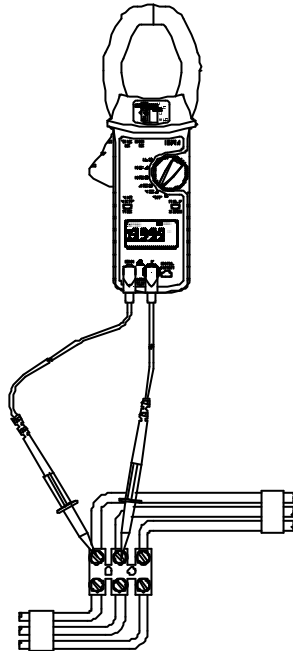

Fig. 3
- Insert the test leads into the sockets on the front of the instrument, the red lead to the $V\Omega$ terminal and the black lead to the COM terminal, as shown in Fig. 3.
- To measure the frequency of the voltage supply apply the test leads to the circuit as shown in Fig. 3 and read the display